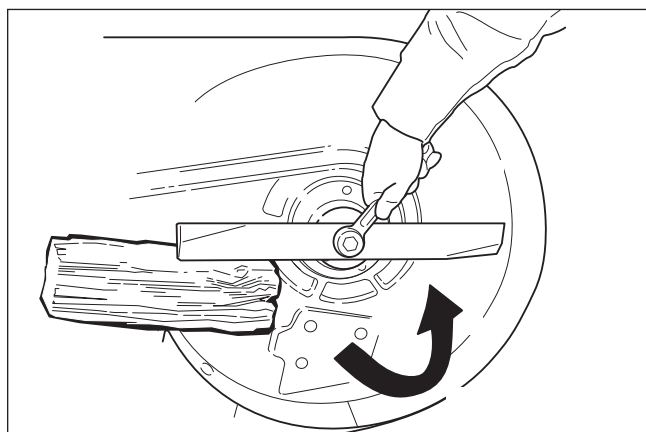

Figure 18. Loosening the Mower Blade for Removal
1. To remove the mower blade, wedge a wooden block between the mower blade and the mower deck housing to keep the mower blade from turning, and remove the mower blade mounting bolt with a 15/16" wrench (Figure 18).